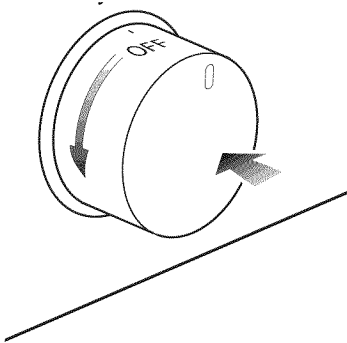

Fig. 2.2
1. Push and turn the dial in a counter-clockwise direction up to the **HI** position (maximum rate), push in and hold the dial until the flame has been lit (fig. 2.2).
2. Push and turn the dial in a counter-clockwise direction up to the **HI** position (maximum rate), push in and hold the dial until the flame has been lit (fig. 2.2).